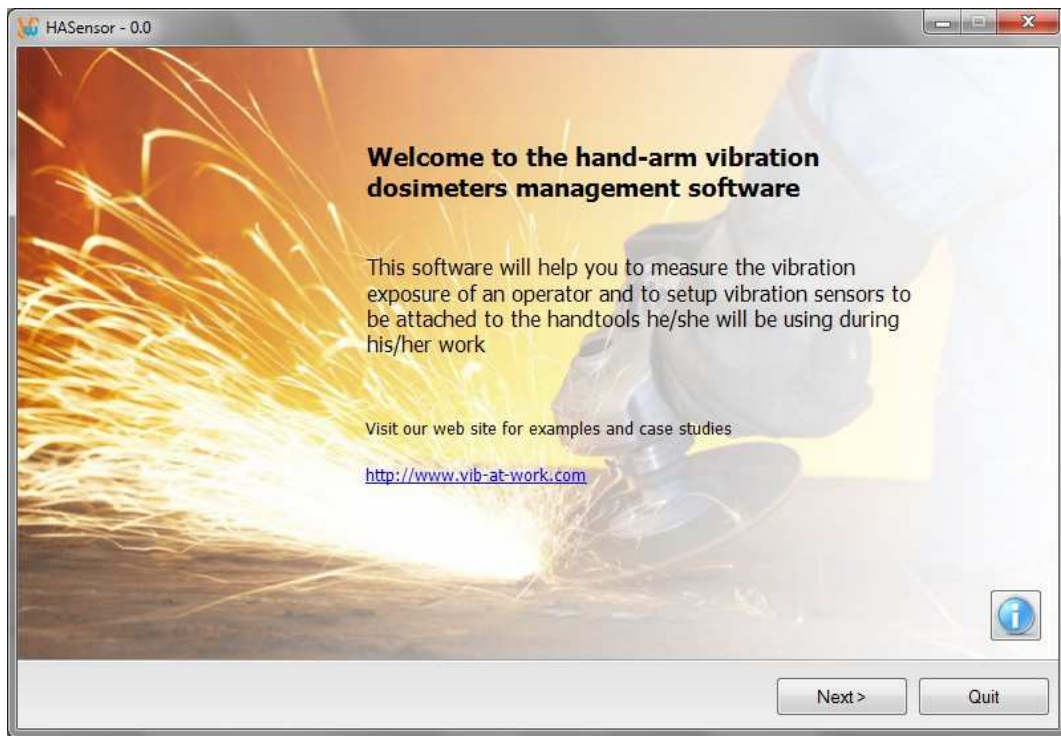

Figure 2: Welcome screen
- The welcome screen is displayed (Figure 2).